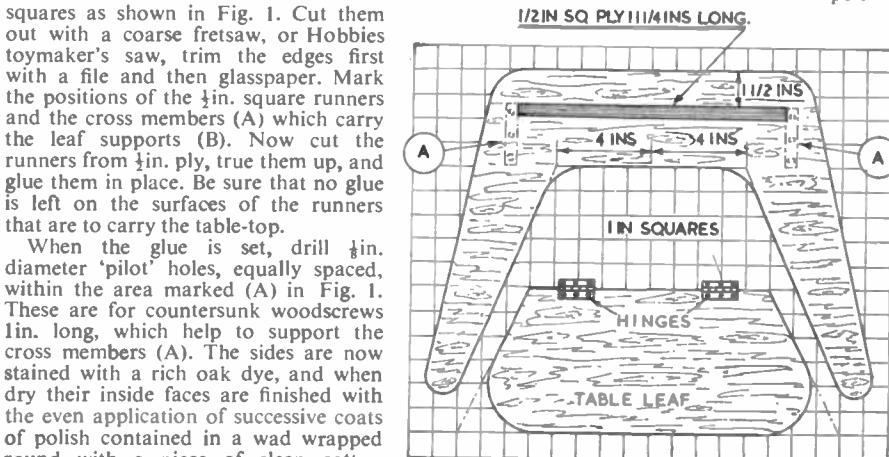

Fig. 1
Let us consider skylights of various kinds. In Fig. 1 we have the more common type. To model this on a small scale we usually use a shaped block of wood, painted to represent the panes of glass and framework.
Next the table-top measuring 14ins. by 10ins. is cut, trimmed and polished on one face. To this are hinged two table leaves each cut to the shape shown in Fig. 1. These are polished on both surfaces. Place these components edge to edge, face down, when screwing the hinges in place.
squares as shown in Fig. 1. Cut them out with a coarse fretsaw, or Hobbies toymaker's saw, trim the edges first with a file and then glasspaper. Mark the positions of the $\frac{1}{2}$ in. square runners and the cross members (A) which carry the leaf supports (B). Now cut the runners from $\frac{1}{2}$ in. ply, true them up, and glue them in place. Be sure that no glue is left on the surfaces of the runners that are to carry the table-top.
When the glue is set, drill $\frac{1}{8}$ in. diameter 'pilot' holes, equally spaced, within the area marked (A) in Fig. 1. These are for countersunk woodscrews 1in. long, which help to support the cross members (A). The sides are now stained with a rich oak dye, and when dry their inside faces are finished with the even application of successive coats of polish contained in a wad wrapped round with a piece of clean cotton fabric to form a pad. Full instructions for the use of this Amateur french